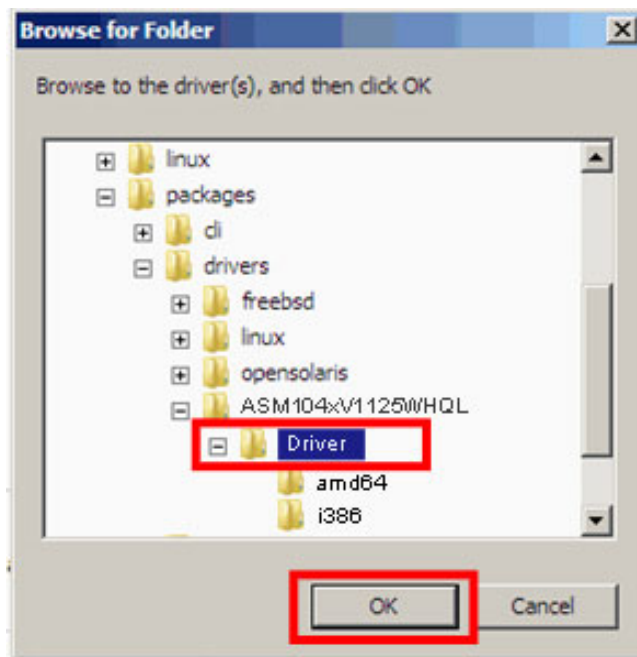

Figure 4-25: Browse for Folder
Step 3: Locate the USB 3.0 driver folder, select **Driver**, and then click **OK** (Figure 4-25).
Step 6: Make sure the **Driver** subfolder inside the USB 3.0 driver folder is selected, and then click **OK** (Figure 4-25).